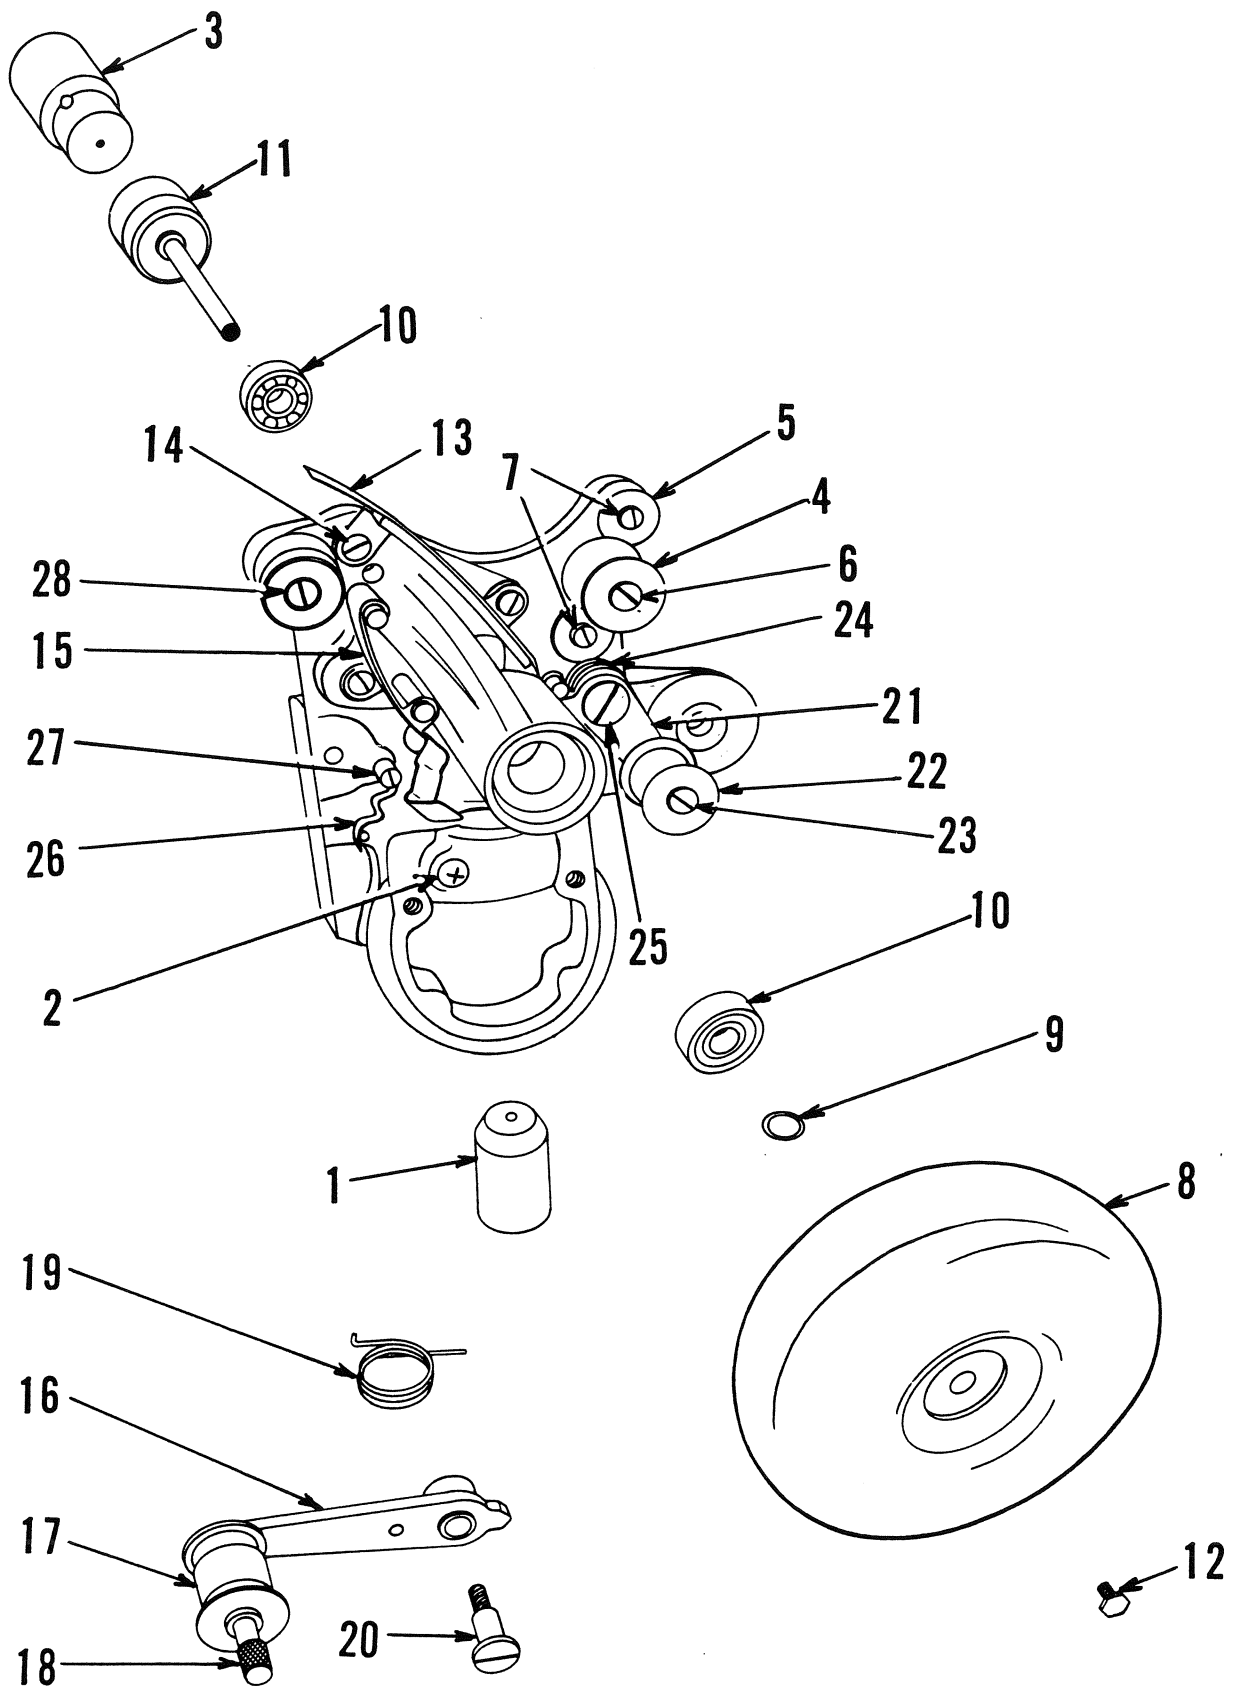

Figure 5 - SOUND HEAD (Exploded view)
Wipe the guide roller pins with a cloth dampened with carbon tetrachloride. Wipe the upper and lower guideways (13 & 15 Fig. 5). Remove the film guide rollers (4 & 22 Fig. 5) and the pressure and tension rollers (17 & 28 Fig. 5) and wash them in carbon tetrachloride. Wipe the shafts and apply a drop of Amproil to each before replacing the rollers.
- (3) Sound Optical System (1 Fig. 5) - Fold a piece of lens tissue over a toothpick and use it to clean the exposed lens surfaces. Do not remove the lens system unless tests of the equipment indicate that such an operation is necessary, in which case refer to Sec. III-A-3 before proceeding.